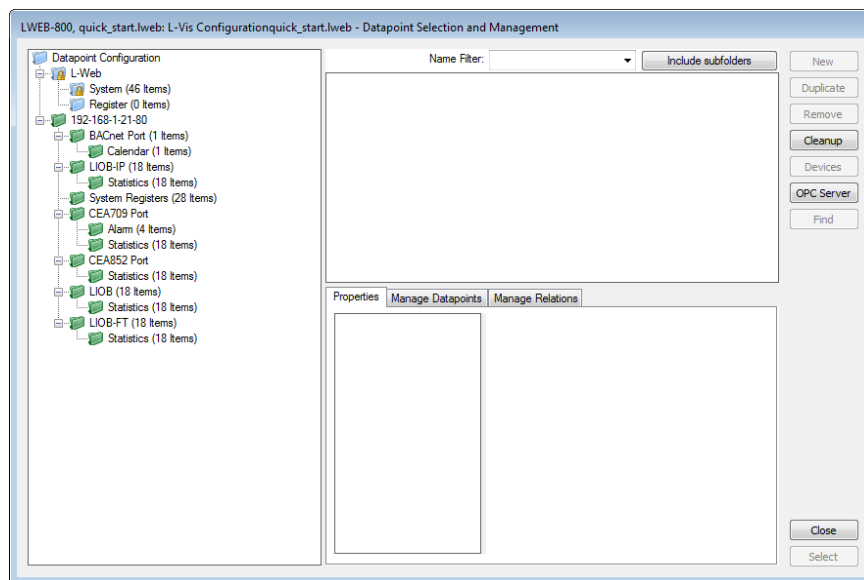

Figure 70: Data Point Dialog
- 1) In the L-VIS Configurator open the data point dialog as shown in Figure 70 and press on the **OPC Server** button.